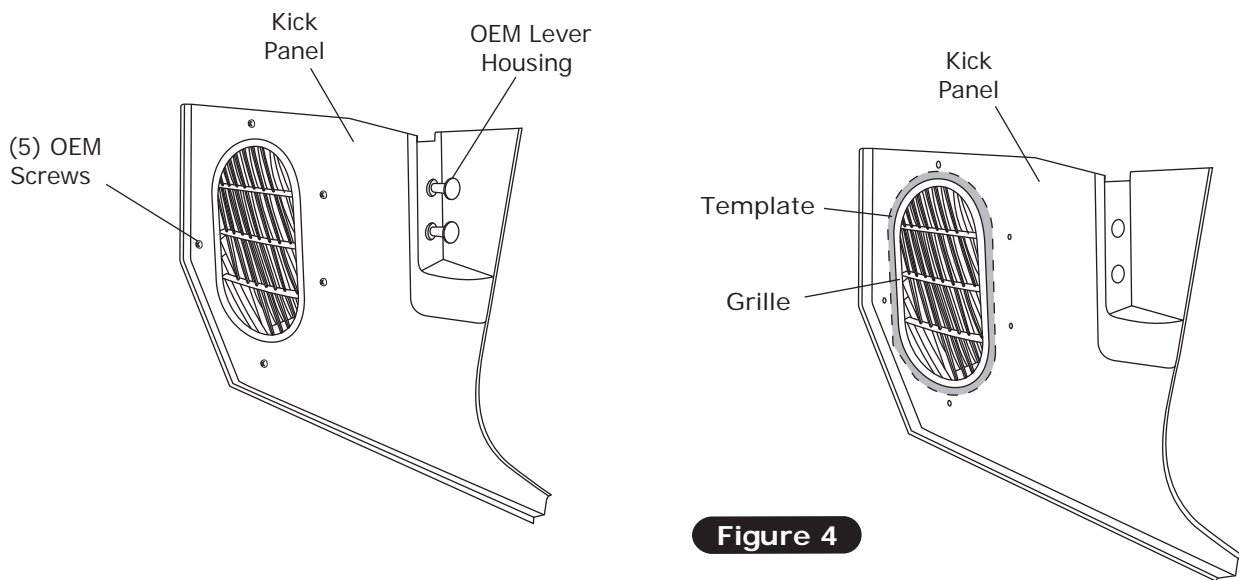

Figure 4
1. Remove kick panel by removing the (5) OEM screws. Disconnect the fresh air door from the lever housing (See Figure 4, below).